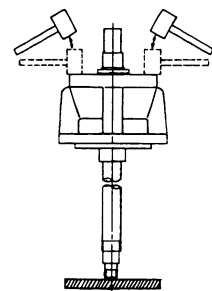

Fig. 12
- (11) Remove fan key ㊳.
- (12) (MLB-703,1003·GLB-705,1005) Remove bearing box (outlet side) ㊴ from fan case (A) ㊵. At this time, shaft ㊶ should come off together with bearing box (outlet side) ㊴. Remove cooling fan ㊷, and remove bearing retaining cap ㊸ from bearing box (outlet side) ㊴.
- (13) (MLB-1503,2003·GLB-1505,2005) Remove bearing bracket ㊹ and insulator pad ㊺ from fan case (A) ㊵. At this time, shaft ㊶ should come off together with bearing box (outlet side) ㊴. Remove cooling fan ㊷, and remove bearing retaining cap ㊸ and bearing bracket ㊹ from bearing box (outlet side) ㊴.
- (14) Lay a wood-block on the floor, and stand shaft ㊶ on top of-it in an upright position. (Fig.12)
- (15) Remove bearing box (outlet side) ㊴ from bearing ㊸ by tapping outside uniformly with plastic hammer.
- (16) Remove bearing nut ㊻ and bearing washer ㊼.
- (17) Remove bearing ㊸ from the shaft ㊶ using a puller.